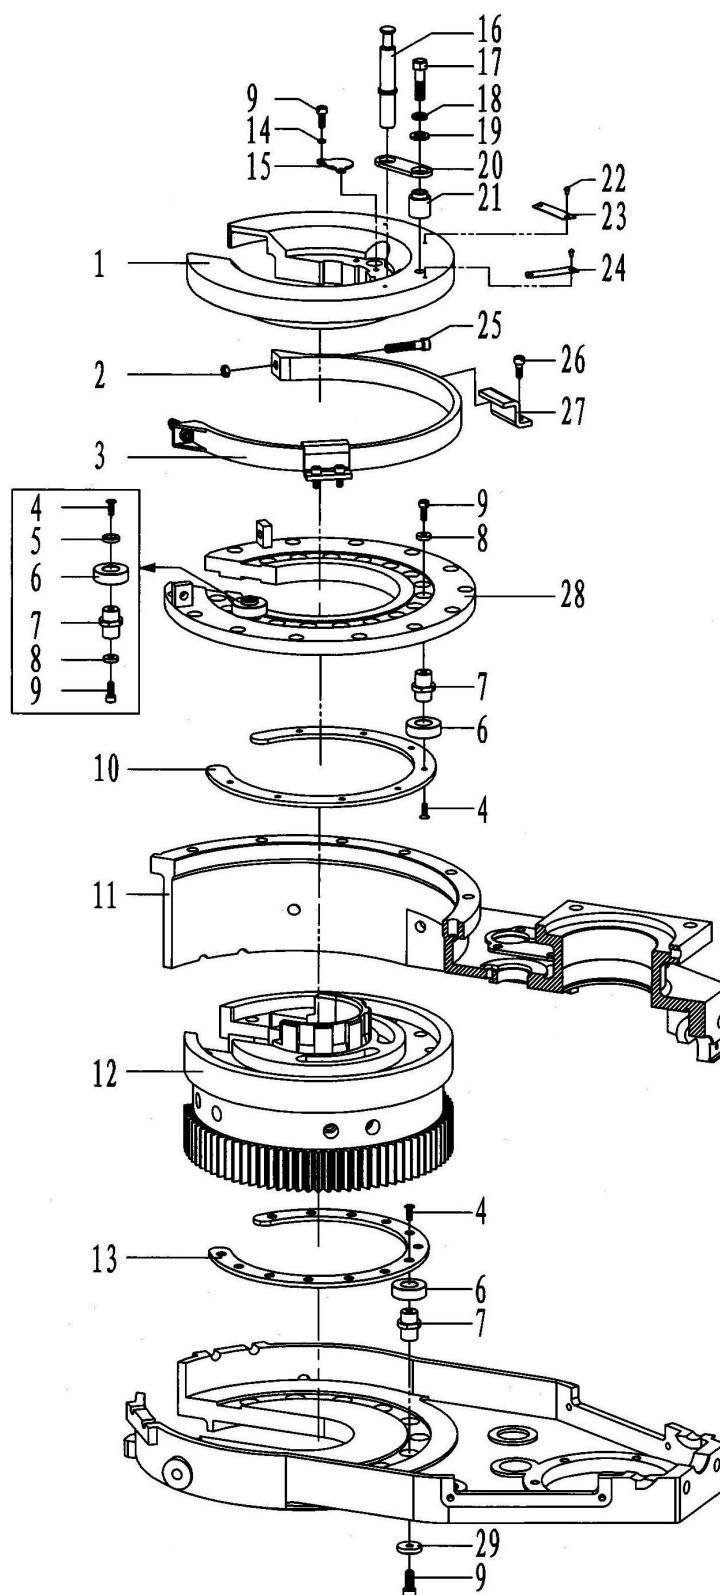

Fig.8-6
8.6Braking , resetting and centring mechanism and parts list(Fig.8-6,Table 8-6)